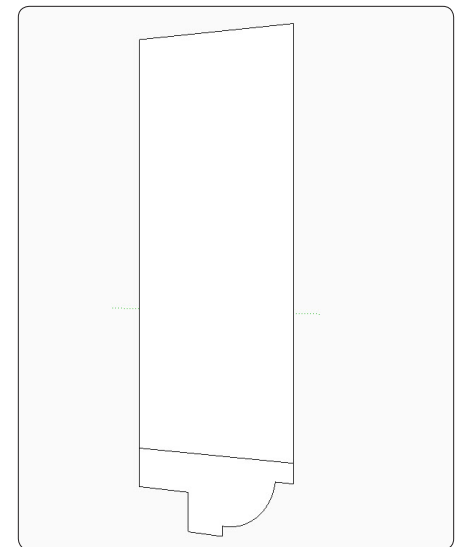
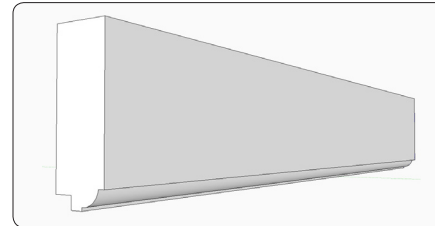

Figure 58. The end face of the top rail, with half the muntin shape attached.
Figure 59. The top rail extruded to length and with its molded edge.
Step 2 Draw the end face of the top rail and connect half of the muntin shape to it, as shown in Figure 58. Use the Push/Pull Tool to extrude the top rail, producing the shape shown in Figure 59.